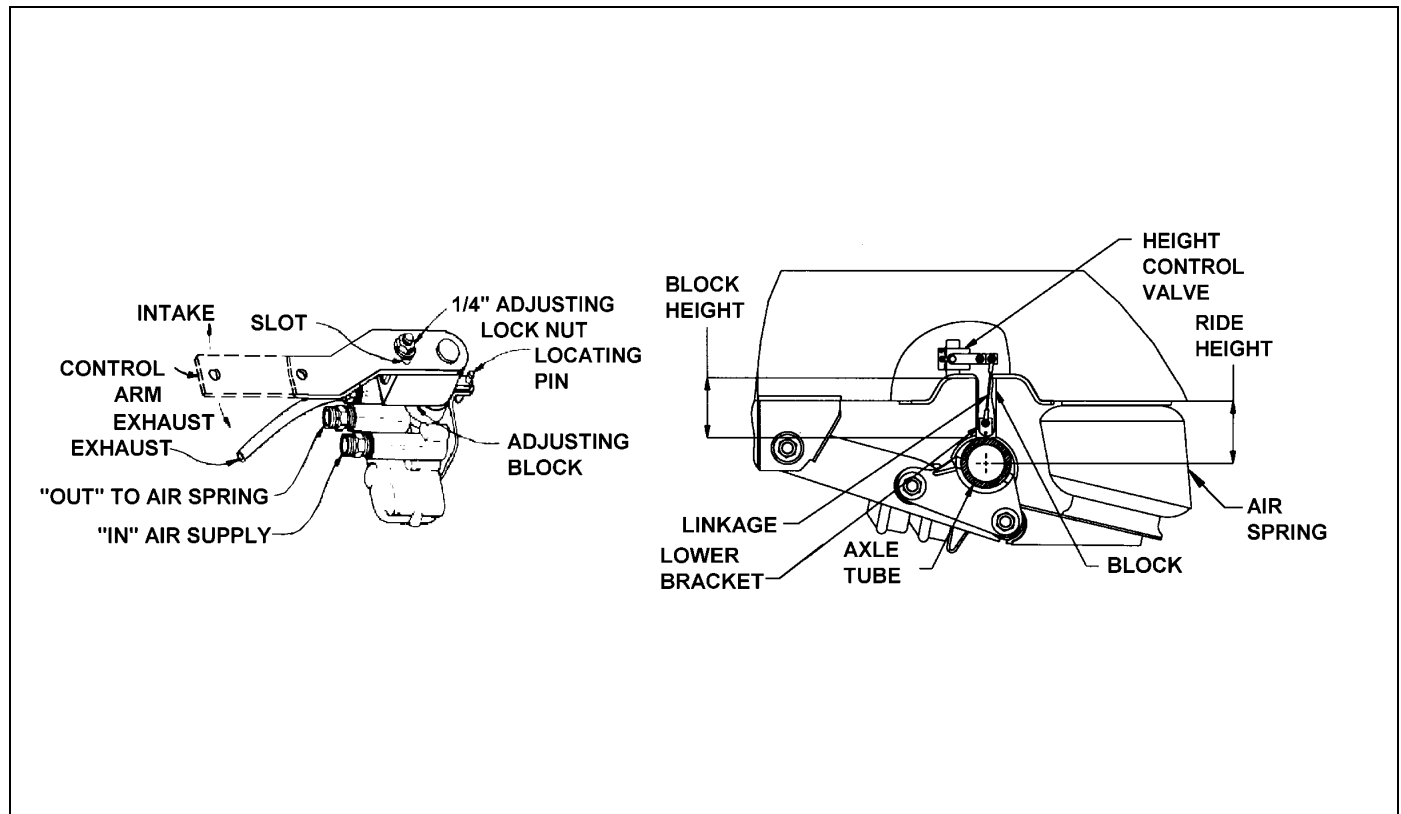

Figure 4-5: Air Ride Height Adjustment
(See Figure 4-5 for parts identification.)
2. Disconnect linkage at the control arm and raise control arm to the "up" position, raising the trailer until a block can be placed between axle tube and undercarriage frame (See Figure 4-5.)
6. Loosen the 1/4" adjusting lock nut located on the adjusting block, allowing the control arm to move approximately 1 inch. Move the adjusting block until holes align, then insert locating pin. (See Figure 4-5.)